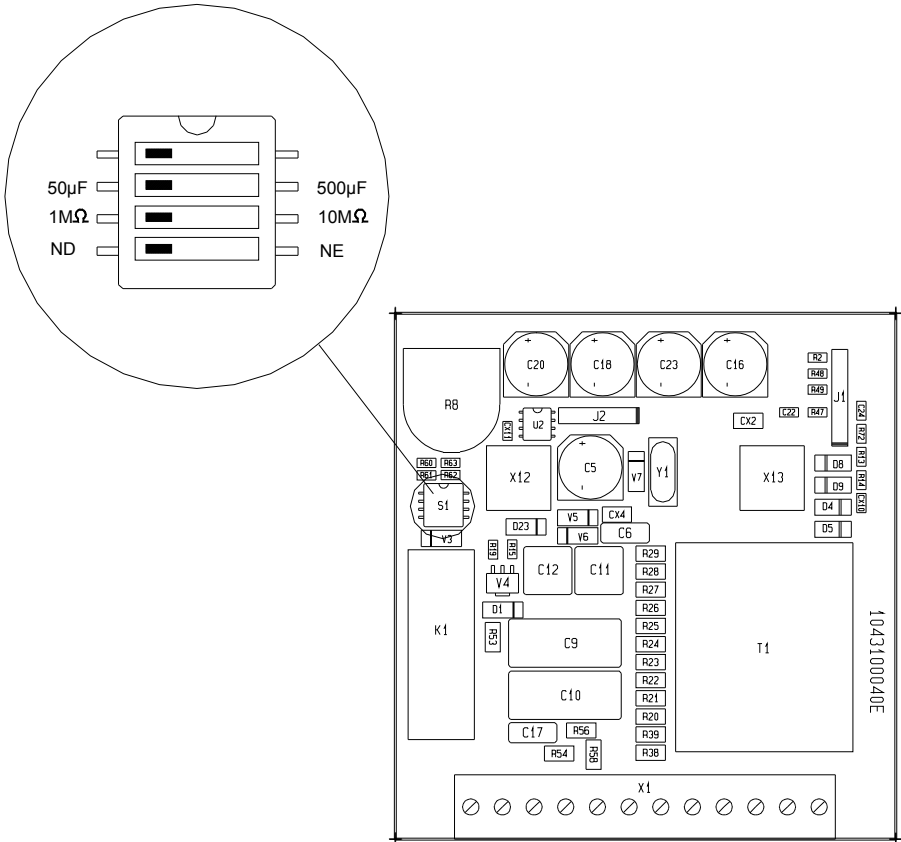

Figure 1
The relay contact can be configured to either a normally energized contact (NE) or a normally de-energized contact (ND). ND function is recommended, if the DIM-Q is supplied from the IT system under supervision, because a disconnection of the supply will not result in an alarm. Figure 1 below shows the location of the switch S1 on the PCB for selection of either ND or NE relay function. The PCB is located under the lid.
The DIM-Q can be configured for measuring range 0...1MΩ with 22kΩ on the scale centre or for 0...10MΩ with 220kΩ on the scale centre. Figure 1 shows the position of the switch for selection of either 1MΩ or 10MΩ measuring range. Please notice that a change of measuring range also involves a change of scale. Change of scale can be done by following the instructions below.